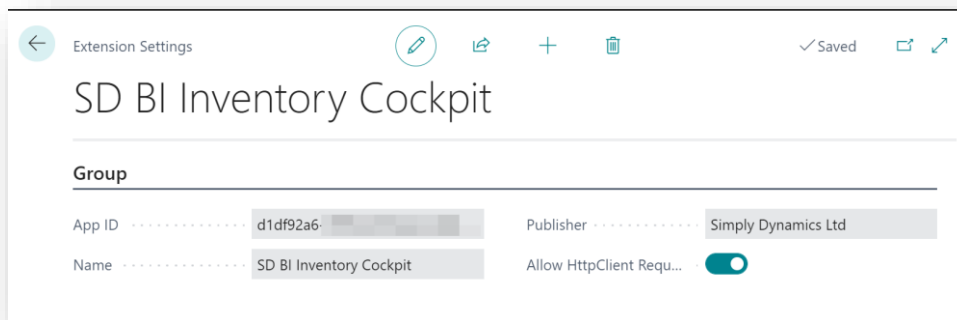

Figure 4-5
4. Choose to allow the **Allow HttpClient Requests** option (Figure 4-5).